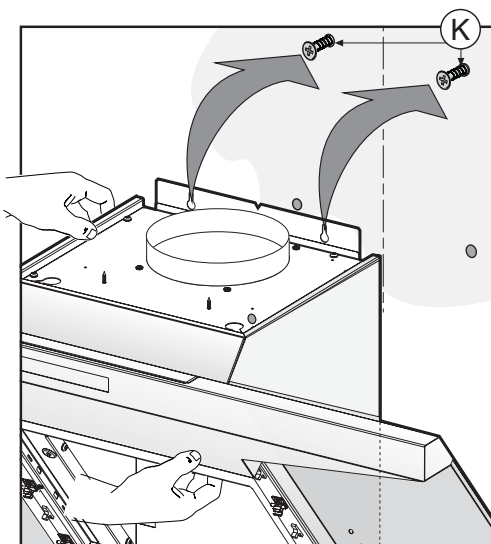

Fig.7
- Place the appliance against the wall, align it in horizontal position and tighten screws **K** (**Fig.7**).